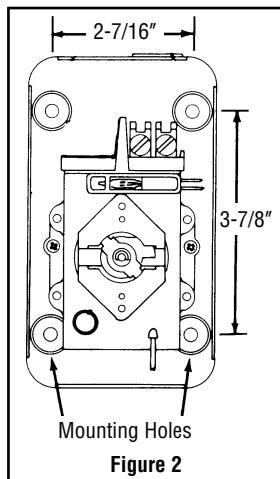

Figure 2
2. Use sheet metal or wood screws through the four 7/32" diameter mounting holes in baseplate to mount control. (See Figure 2.)